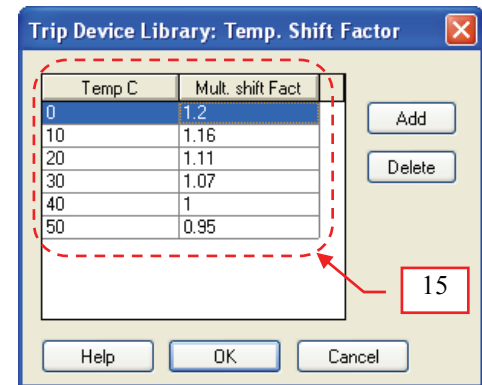

Fig. 20
15. In the “Trip Device Library: Temp. Shift Factor” dialog box, populate the table as shown in Fig. 20 by clicking on the appropriate cell and typing the numerical value. Also, click on the “Add” or “Delete” button when necessary. When finished, click the “OK” button.